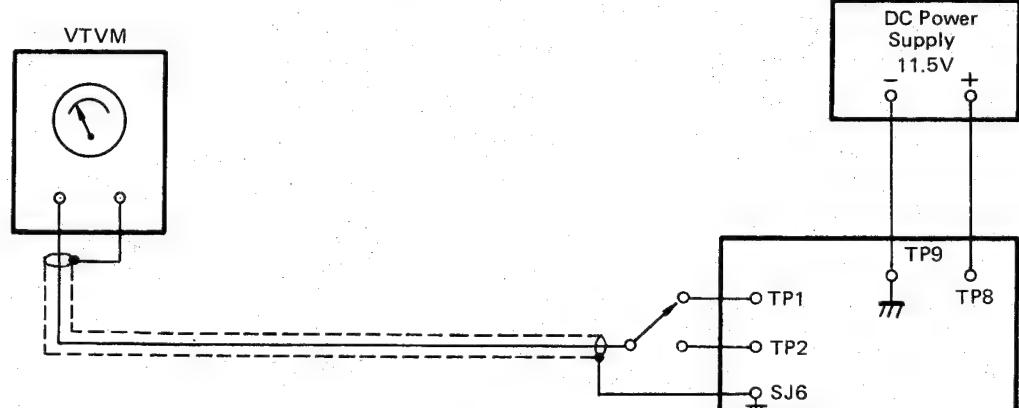

Fig. 33
- Set up Voltmeter and DC power supply as shown in Fig. 33.